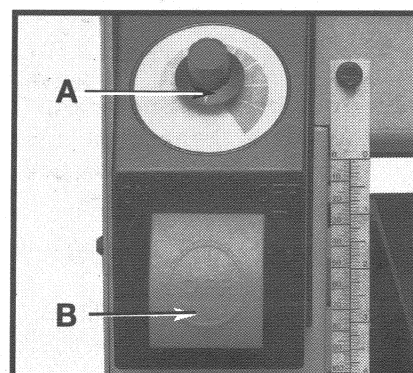

Fig. 15
The "FEED/SPEED" switch, (A) Fig. 15 is located above the drum motor on/off switch shield (B). Rotate the knob (A) Fig. 15 clockwise to turn the table motor on and continue to turn it in order to increase the table feed/speed rates and counter-clockwise to decrease the speed rates.